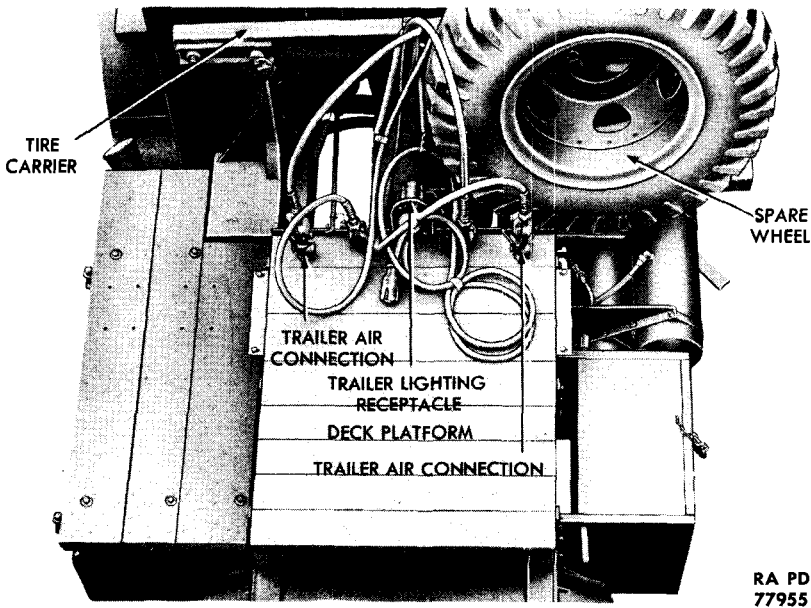

Figure 53 – Trailer Connections and Deck Platform
a. **Remove Spare Wheel (fig. 53).** Unlock padlock. Remove the two nuts, lock washers, and clamp bracket which secure wheel to tire carrier assembly, and remove wheel.
b. **Remove Trailer Lighting Receptacle and Deck Platform Assembly (fig. 53).** Remove the two bolts, nuts, and lock washers which secure trailer lighting cable receptacle bracket to deck platform, and free bracket from deck platform. Detach the two hose couplings, and pull hose free from deck platform. Loosen clamping stud which secures air tubing to semitrailer hose assembly, and pull tube free from assembly. Remove the 12 bolts, nuts, and 24 lock washers which secure frame to deck platform brackets to deck platform. Remove deck platform from vehicle.
- l. **Install Deck Platform Assembly and Trailer Lighting Receptacle** (fig. 53). Position deck platform to frame. Secure with the 12 bolts, nuts, and 24 lock washers. Position trailer lighting cable receptacle bracket to deck platform, and secure with the 2 bolts, lock washers, and nuts. Tighten clamping stud which secures air tubing
m. **Install Spare Wheel** (fig. 53). Position wheel to tire carrier. Secure with the two nuts, lock washers, and clamp bracket.